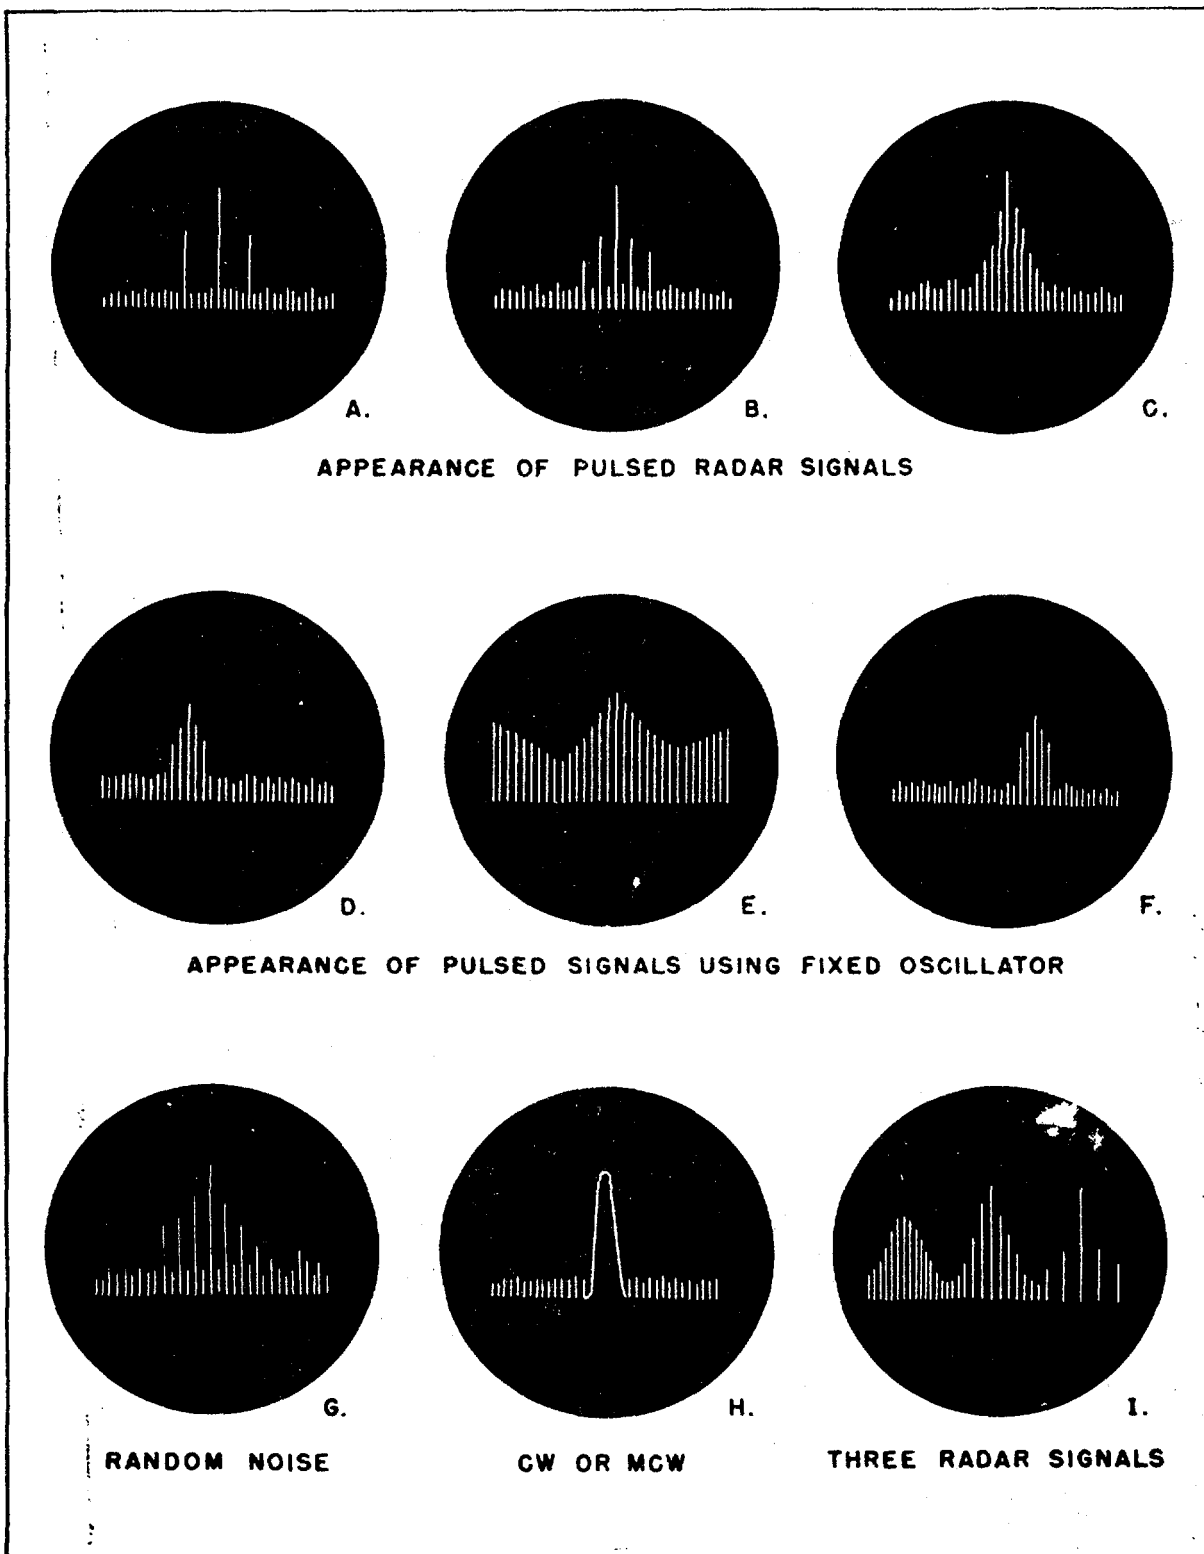

Figure 2-3B. Direction Finder Group AN/APA-69A, Panoramic Signal Patterns
2-19. SECTOR SWEEPING. Figure 2-3B illustrates various types of signal response which may be encountered with the azimuth panoramic indicator in use for panoramic signal detection. When adjusted for "sector sweep", the receiver is driven over a band 20 kilocycles wide and delivers to the cathode-ray tube a vertical voltage which in effect pictures the amplitude of the received signal. Figures 2-3B (A), (B) and (C) illustrate, respectively, intercepted signals of low, medium, and high repetition rate. Figure 2-3B (G) illustrates relative levels of random noise and an intercepted radar signal. Figure 2-3B (I) illustrates a sweep picture of a sector containing three radar signals, each of a different repetition rate. Figure 2-3B (H) is an interpretation of the appearance of an intercepted cw or mcw signal.
2-20. FIXED OSCILLATOR OPERATION. When a radar signal has been intercepted, the "sector sweep" operation may be discontinued and the receiver tuned manually to the frequency of the suspected signal. A fixed oscillator is used to determine its exact frequency. Figure 2-3B (D) and (F) illustrate the appearance of a signal on the cathode-ray tube when the receiver is just off the signal frequency. When tuned exactly to the signal frequency, the fixed oscillator (in Radar Set AN/APR-9) causes the entire screen to "bloom" up, as in figure 2-3B (E), thus identifying the signal frequency. Read and record the frequency on the frequency indicator.